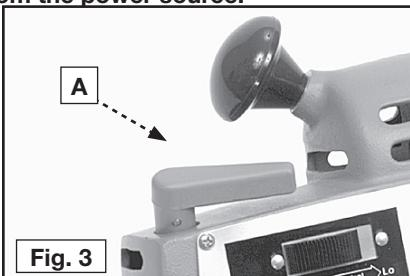
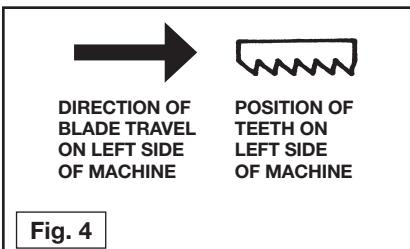

Fig. 3
Fig. 4
To remove the blade, turn handle (A), Fig. 3, clockwise to release tension on the saw blade. Remove the blade first from the pulleys and then from the blade guide.
NOTE: Make sure that the teeth on the left side of the tool point toward the rear of the tool. See Fig. 4 and 5. Turn handle (A), Fig. 3 counter-clockwise as far as it will go to place tension on the saw blade.